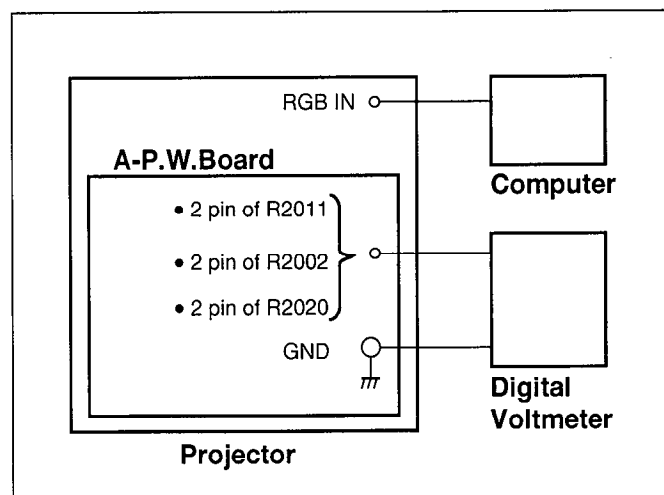

Fig. 7
7. Connect a digital voltmeter to 2 pin of R2002 and ground. (See Fig. 7)
12. Connect a digital voltmeter to 2 pin of R2020 and ground. (See Fig. 7)